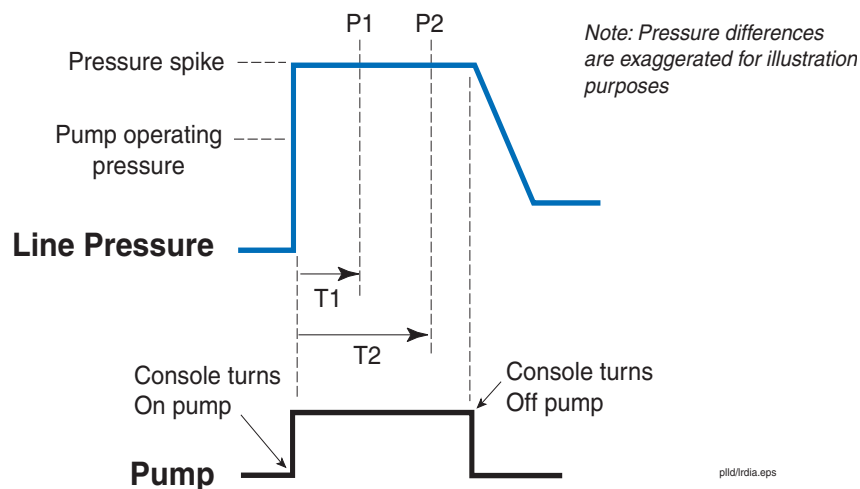

Figure 6. Leak Rate Calculation
| Figure 6. | Leak Rate Calculation | 6 |
When the pump is turned On a pressure spike is trapped in the line (Figure 6). After a waiting time T1, the reference pressure P1 is measured. After waiting time T2, pressure P2 is measured. A leak rate (LR) is calculated using the values T1, T2, P1, and P2.